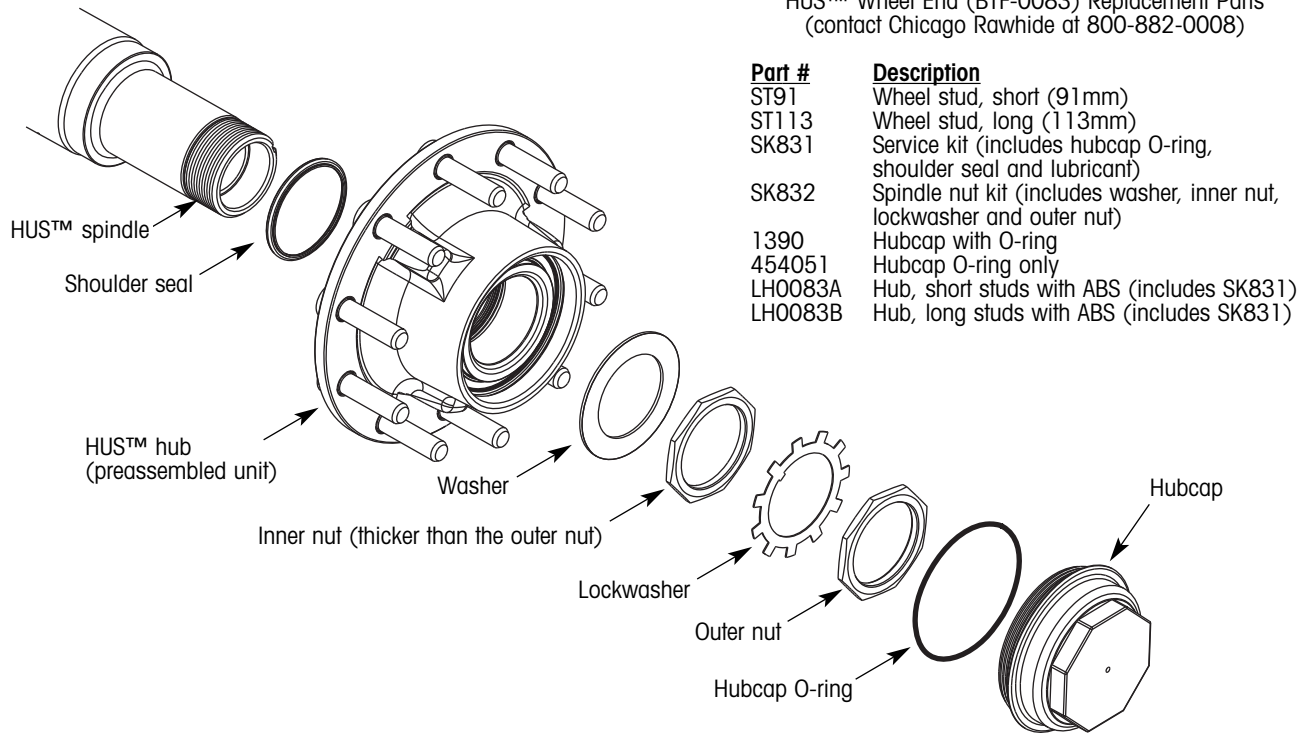

Figure 1. HUST™ wheel end parts identification
The HUST™ hub (figure 1) is a permanently sealed and lubricated assembly designed to help reduce wheel-end maintenance.
6. Remove the outer spindle nut, lockwasher, inner spindle nut and washer (all items can be seen in figure 1). Use care when removing the inner spindle nut to prevent damage to the hub outer seal.